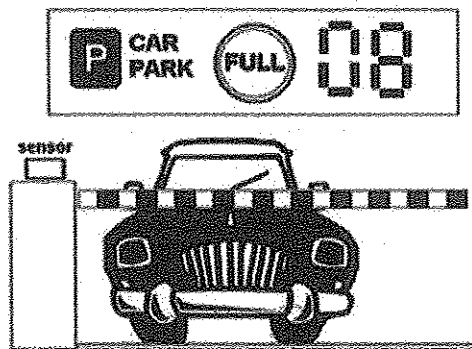

Figure A2(c)/ Rajah A2(c)
- c) Figure A2(c) shows a counting system for a car park. The sensor will count the number of cars getting into the car park. The indicator "FULL" will appear when the counter exceeds 50 and the barrier will move down. Sketch this sequence by using the conventional ladder diagram sequence.